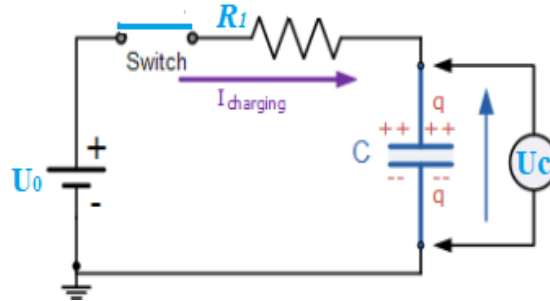

Figure .3 : RC Charging Circuit.
When the switch is in position 1 as shown in Figure.3, charge on the conductors builds to a maximum value after some time.
Wire up the circuit (a resistor and a capacitor are connected in series with a battery and a switch) shown in Figure 3, but have your lab instructor check your circuit before closing the switch. For the switch you will use one side of a double-throw switch. The resistance R_1 is atk Ω . Use the capacitor with the larger capacitance labeled on.....
A capacitor C is charged through a resistance R_1 by putting switch S in position (A) of circuit shown in figure 3. Start the stopwatch and turn the switch on simultaneously. For every 5 seconds, you should read the voltage as accurately as possible for the first minute then every 10 seconds for the second minute and finally every 20 seconds for the third minutes – it will increase quite quickly at first.